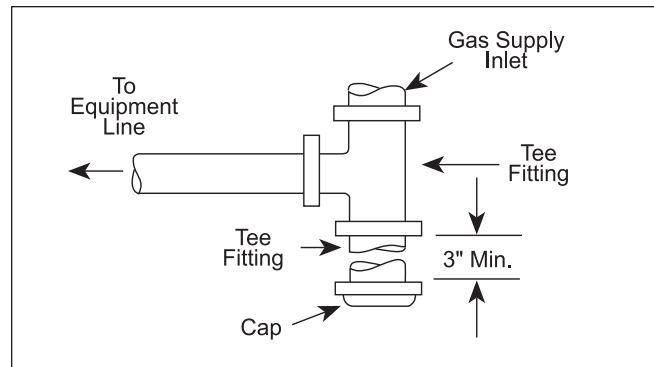

Figure 5. Tee Fitting Sediment Trap.
- A trap (drip leg) must be provided ahead of the gas controls (see Figure 5). Where required by code,